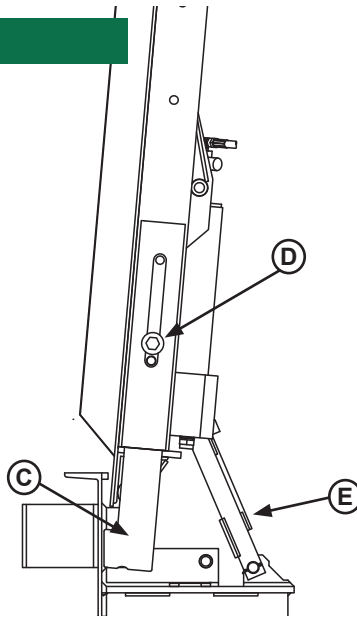

Figure 25
When working with electrical or electronic controls, make sure that the power source has been tagged (A) and locked out (B) according to OSHA regulations and approved local electrical codes (see Figure 25).